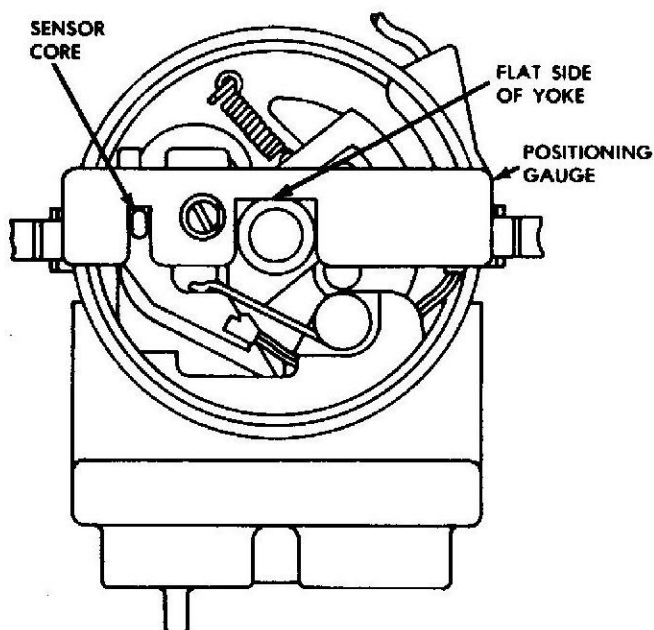

Fig. 3 Sensor Positioning
(8) Install sensor lead grommet in distributor bowl, making sure that leads are positioned so they will not get caught by trigger wheel.
(9) Install positioning gauge over yoke against flat side of yoke. (fig. 3).